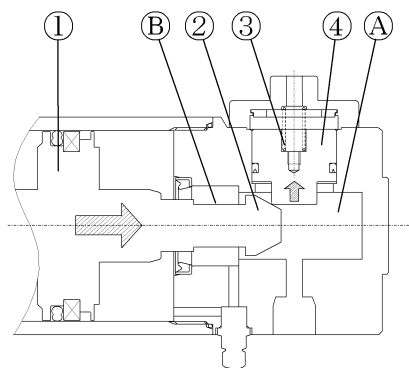

Fig.1
- (a) Stopper piston ④ is pushed up by the slant of sleeve tip ② as the piston ① of cylinder approaches to its stroke end. (Fig. 1)